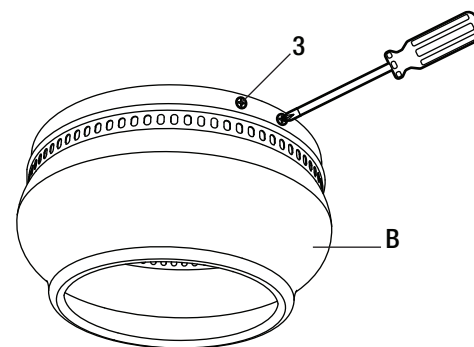

Figure 11
- Fix the motor housing (B) onto the supporting bar (A) using the four screws (3) preassembled to the supporting bar (A) (Figure 11).